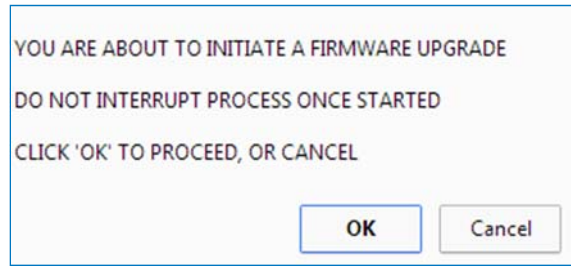

Figure 5-18: Proceed With Upgrade Prompt
- Click the “Upload” button. A warning message will appear; click the “OK” button (See **Figure 5-18**).